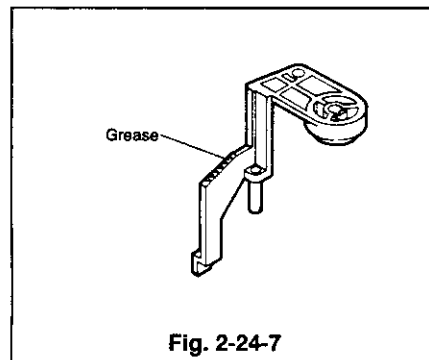

Fig. 2-24-7
- 7 Apply the grease (PG-641) [859D055O30] to the new pinch cam cap on the area shown in Fig. 2-24-7.